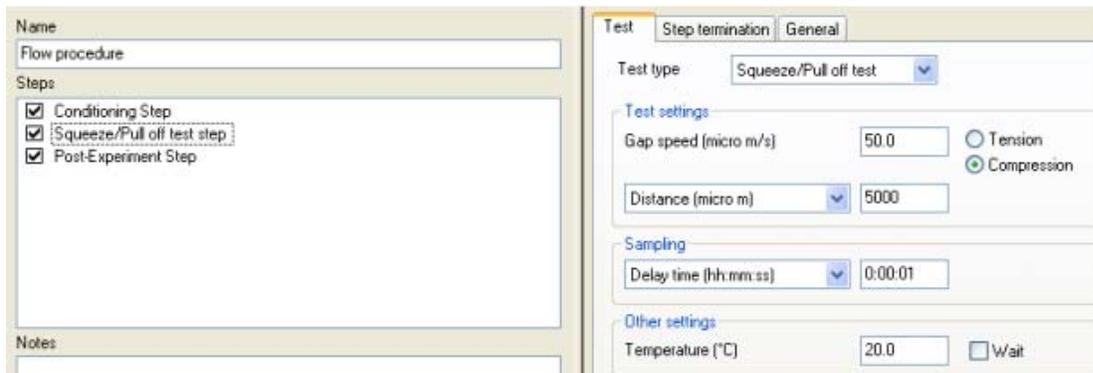

Figure 9.4: Procedure to Identify Interface Position
5. Use a squeeze test similar to that shown below in Figure 9.4. This can be set up using **Procedure/New/Flow**.